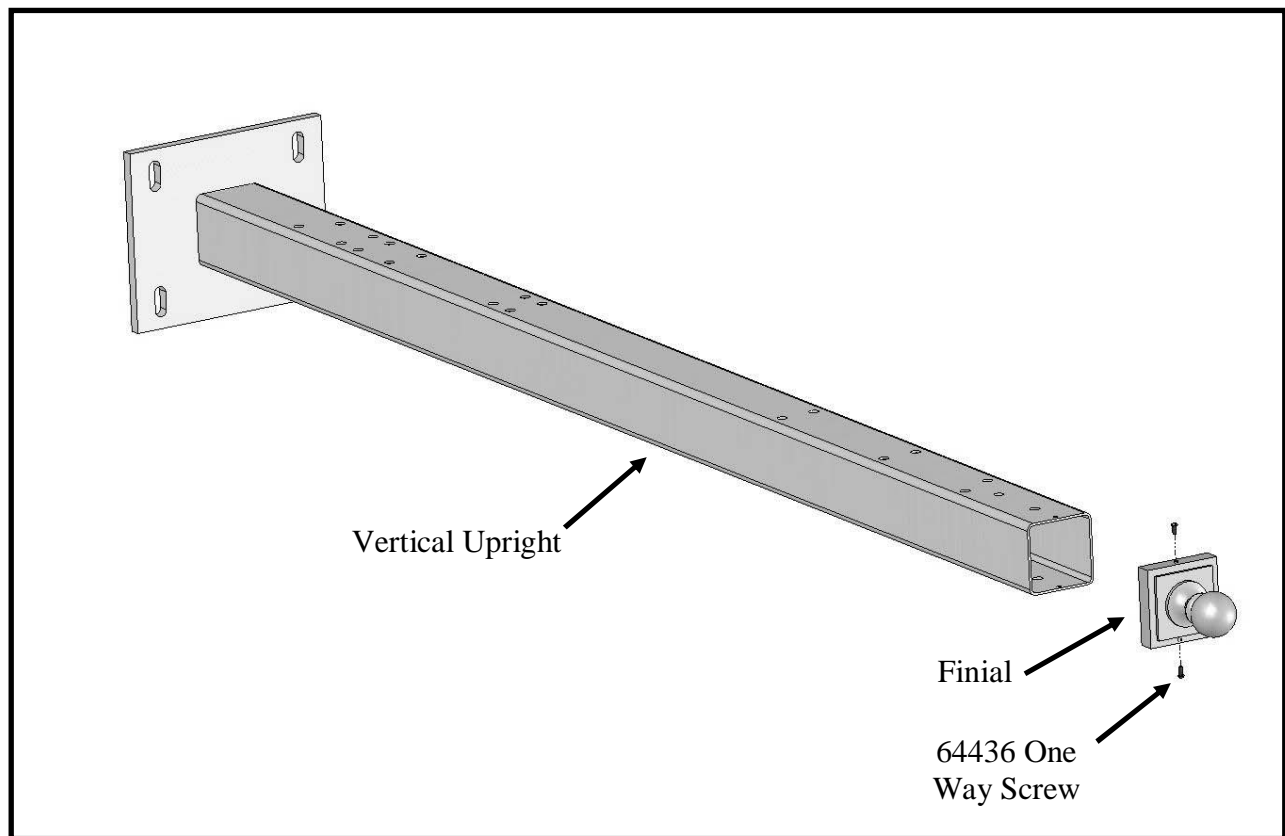

Figure 1 – Vertical Upright Assembly
- b) Place the finial on top of the vertical upright aligning the holes and fasten in place with (2) 64436 one way screws.
- d) Make sure all screws are tight. *See Figure 1.*